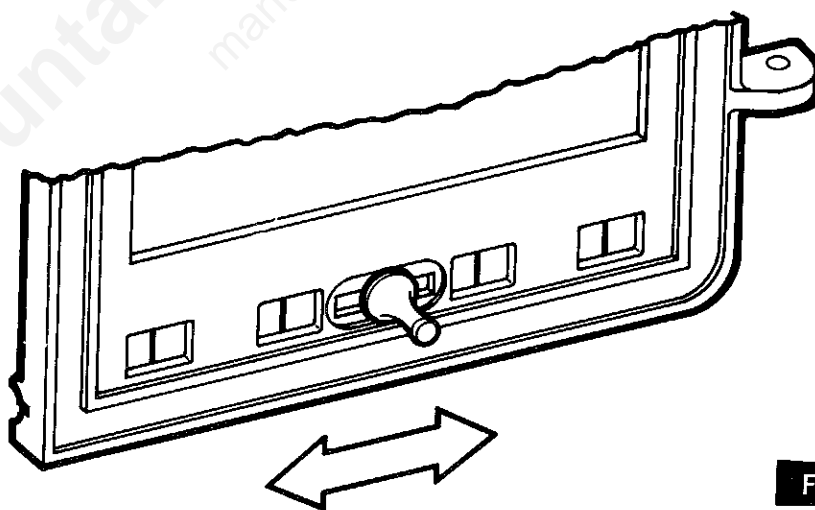

FIG. 9
1. Open the air inlet shutter on door (See Fig. 9).
1. The temperature in the room and the rate at which wood is burned can be controlled by adjustment of the air inlet shutter (Fig. 9) and the flue outlet damper. Close the air inlet shutter and/or the flue outlet damper partially or fully to reduce the rate of burn and temperature in the room.